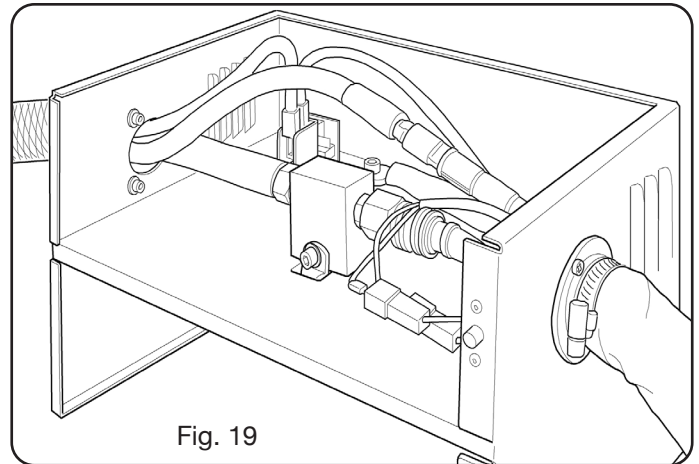

Fig. 19
- Insert a torch cable (art .1640 ,1642) in the HV19-1 Unit (art. 464) or in the HV19-19/PVC (art. 459) Unit as shown in the right part of figure 19.